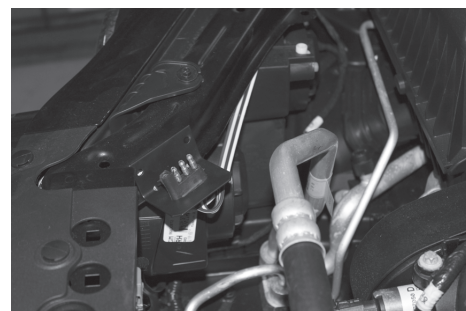

Figure 8
13. Locate a suitable position to mount the 4-Flat bracket shown in **Figure 8**. Using the bracket as a template mark the two holes and drill two 3/32" holes and attach the bracket using the two remaining screws.